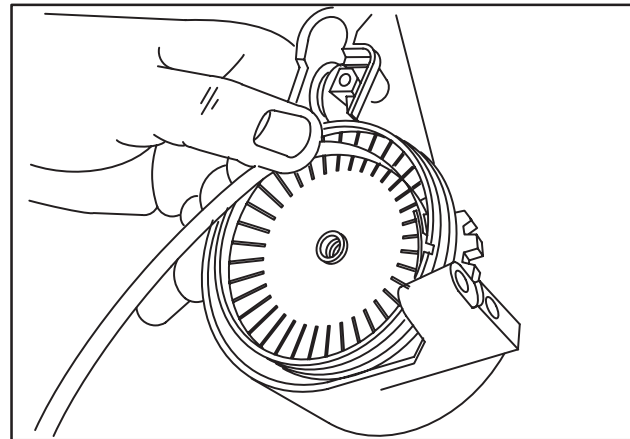

Fig. 626 – INSTALLING SPRING IN OUTER RETAINER
2. Hook end of spring into spring retainer on outside diameter of pulley, Fig. 626.